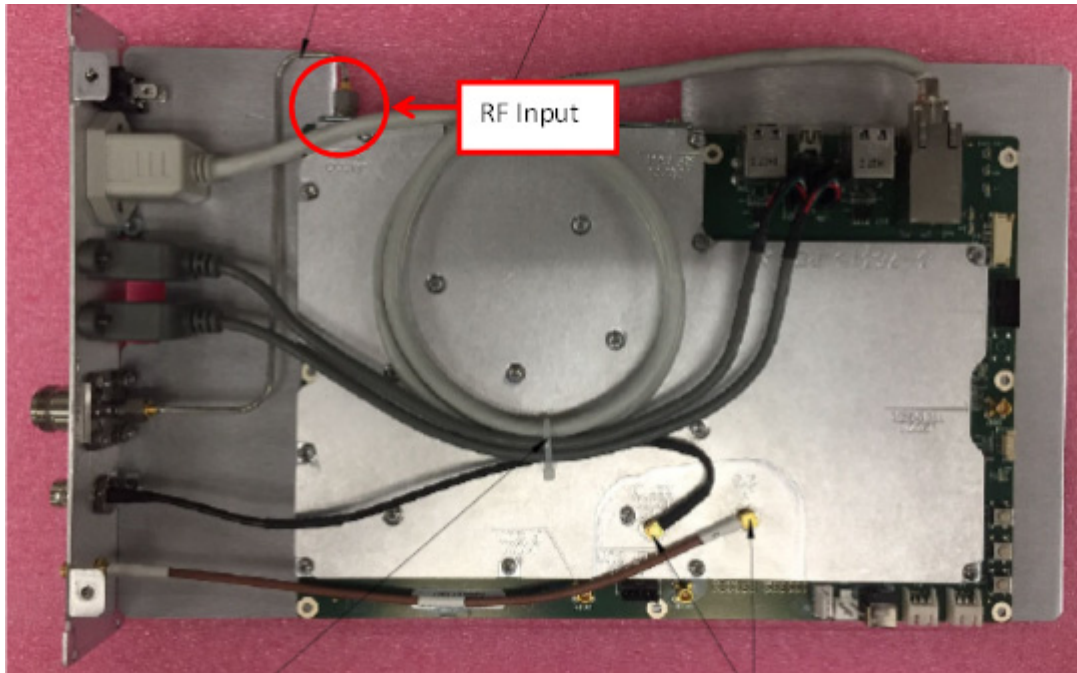

Figure 3-5. RF Input Connector
2. Referring to Figure 3-5, remove the semi-rigid cable connected to the RF Input of the SPA PCB. The SPA assembly is attached to a mounting plate that is included with a replacement SPA, so the mounting plate does not need to be removed from the SPA.